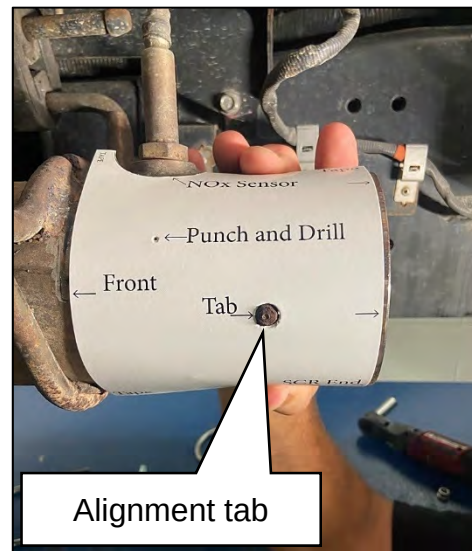

Figure 16
7. Place the Paper Template on the SCR catalyst outlet, as shown in Figure 16.